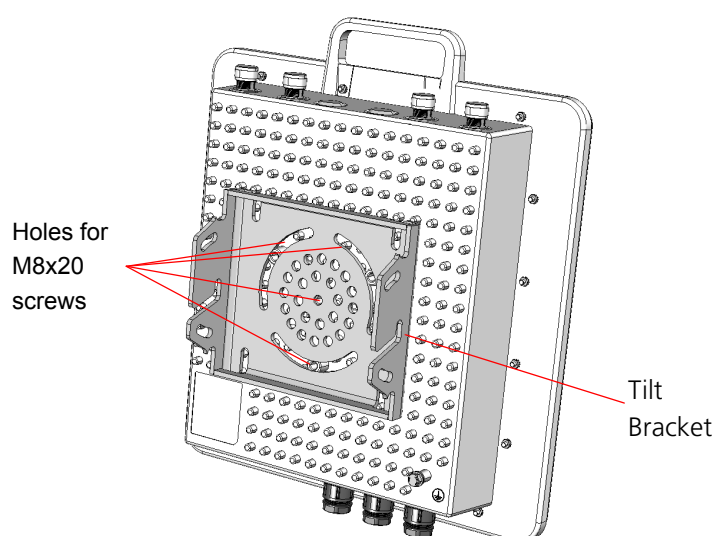

Figure 1: Assembling the Tilt Bracket on the Unit
- 1 Assemble the tilt bracket on the unit and fasten the M8 screws (see Figure 1). Apply torque of 80 [Lib*In] = 9 [N*m].